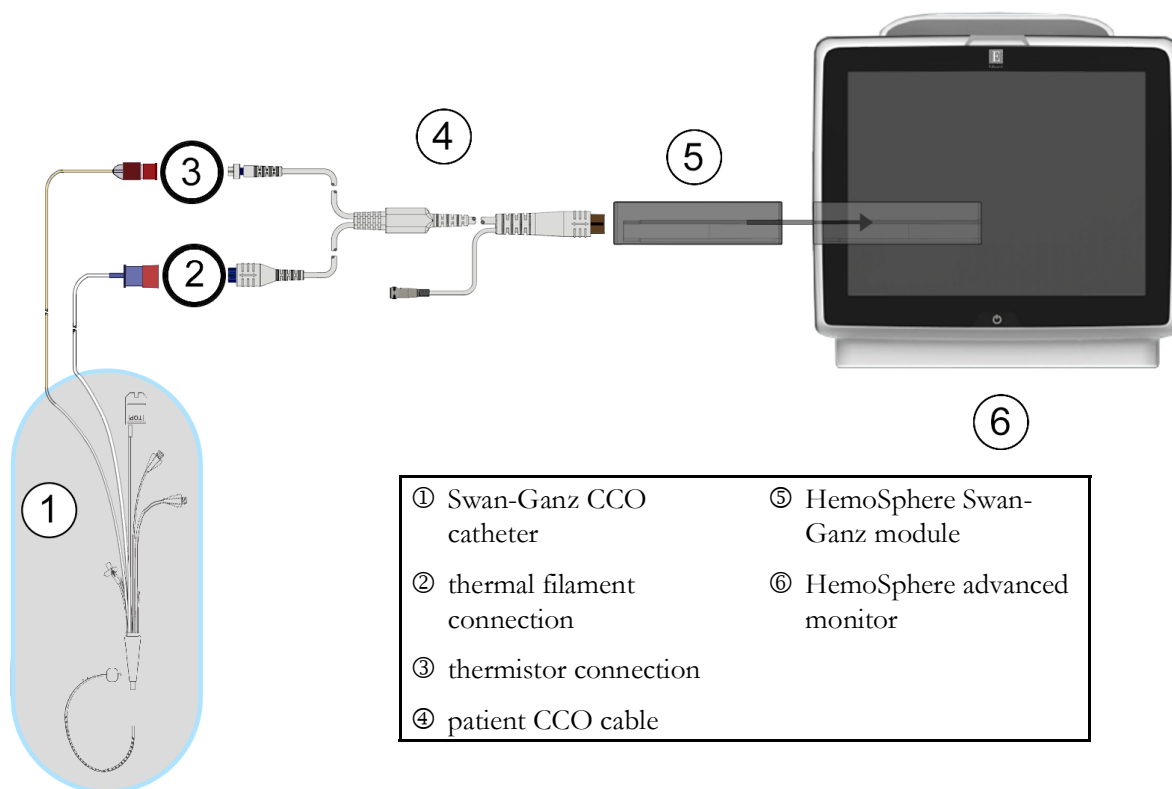

Figure 9-4 CO connection overview
- 2 Attach the catheter end of the patient cable to the thermistor and thermal filament connectors on the Swan-Ganz CCO catheter. These connections are emphasized as numbers ② and ③ in figure 9-4 on page 154.